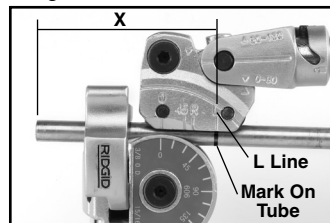

Figure 6 – Before
- Mark the tube at the desired distance (X) from the feature (end of tube, bend, etc.). The center of the leg of the bend will be this distance from the feature.
- If the feature is to the **LEFT** of the mark (see Figure 6 – Before), align the mark on the tube with the “L” line on the Carriage.